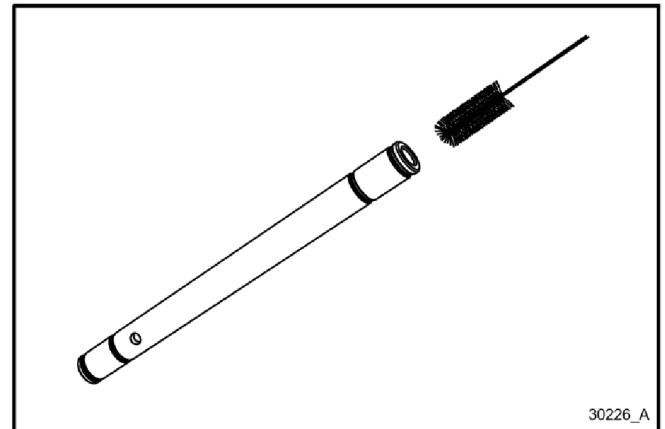

Figure 5-12
5. Clear any clogged product from the feed tube (Figure 5-12.) then lay feed tube back into the hopper for a final rinse.